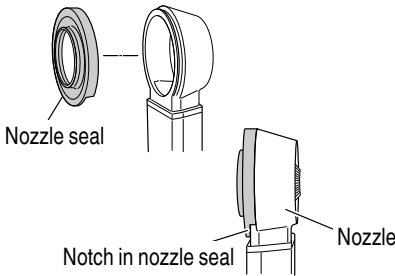

Fig. 19
7. Replacing the nozzle seal and brush cap (Fig. 19, 20)
- (a) Replacing the nozzle seal (Fig. 19)